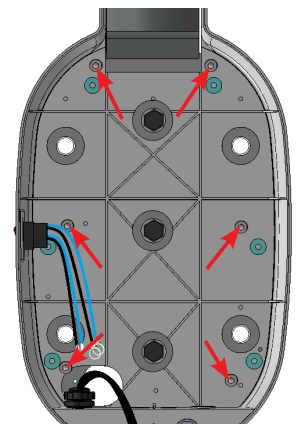

Figure 54
- Remove the old base unit rear cover by removing 6 M3x6 HSHC screws and M3 plane washers at the locations shown in Figure 54 using 2.5mm allen key.
- Fix the new base unit rear cover by fixing 6 M3x6 HSHC screws at the locations shown in Figure 54 using 2.5 mm allen key.